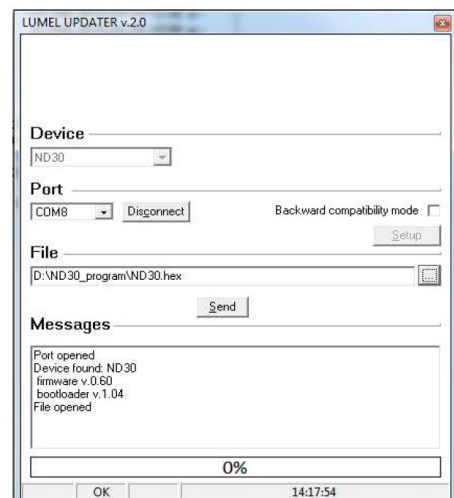

Fig. 25. Program window view: a) eCon, b) software upgrade
After launching eCon software, set in the settings required serial port, baud rate, mode and address of the meter. Next, select the ND30BAC meter and click *Config*. Click the down arrow icon to read all of the settings then the disk icon to save the settings to a file (required to restore the settings later). After selecting the option *Update firmware* (in the upper right corner of the screen) the window *Lumel Updater (LU)* will be opened – Fig. 25. Click *Connect*. The *Messages* information window displays information concerning upgrade process. If the port is opened correctly, a *Port opened* message appears. Upgrade mode is enabled using either of the two methods: remotely via LU (using eCon settings: address, mode, baud rate, COM port) and by turning a meter on while pressing the button  (while entering bootloader mode the button is used to set communication settings: baud rate 9600, RTU8N2, address 1). The display will show the bootloader version, while the LU program displays the message *Device found* and the name and version of the connected device. Click the "...” button and browse to the meter upgrade file. If the file is opened correctly, *File opened* message is displayed. Press the *Send* button. When upgrade is successfully completed, the meter begins normal work while the information window displays *Done* message and upgrade elapsed time. After the LU window is closed, go to parameter group *Service parameters*, select the option *Set default settings of a meter* and press a button *Restore*. Then press the folder icon to open a previously saved settings file and press the up arrow icon to save the settings in the meter. Current software version can be checked by reading the welcome message when switching the meter on. Note: Turning meter supply off during upgrade process may result in permanent damage!